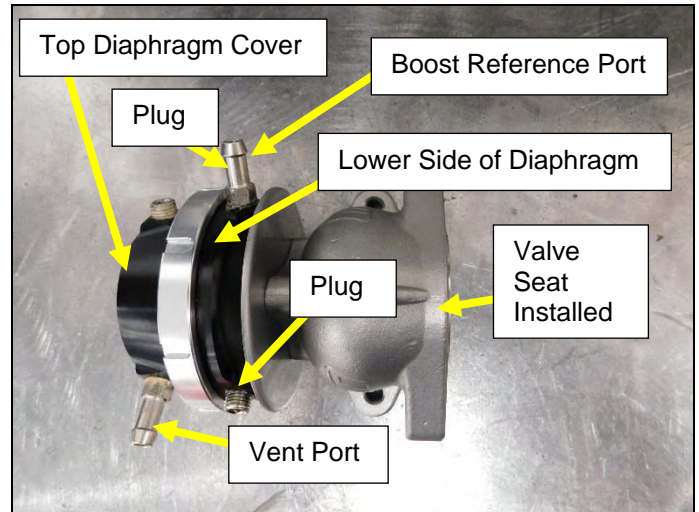

Figure 47
**IMPORTANT:** The **Boost Reference Line** from the 4-way tee at the brake booster **MUST ALWAYS** be connected to the lower side of the diaphragm (**Figure 47**). **NEVER** connect boost reference to the top side of the diaphragm. Connecting boost reference to the top diaphragm cover will result in serious over boost condition that will cause immediate and serious engine damage. The lower side of the diaphragm must have a boost reference to one port and the second port will be plugged.
2. Install one hose barb and one plug in each side of the diaphragm housing (**Figure 47**).